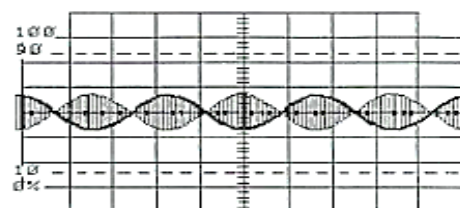

Figure 4-7.
2. Connect the oscilloscope channel 1 probe to the message signal input (M). While observing the signal on channel 1, adjust the signal generator for a $300\text{ mV}_{\text{pk-pk}}$, 3 kHz sine wave (message signal) at M.
3. Connect the oscilloscope channel 2 probe to the carrier signal input (C). While observing the signal on channel 2, adjust the amplitude knob on VCO-LO for a $100\text{ mV}_{\text{pk-pk}}$ carrier signal at C.
7. Slowly turn the MODULATOR'S potentiometer knob clockwise (CW) until the AM signal (channel 2) is less than (<) 100% modulated. Continue to turn the knob slowly CW until the AM signal is greater than (>) 100% modulated.
8. Continue to turn the knob slowly CW until the amplitude modulated signal appears, as shown in Figure 4-7. What type of amplitude modulated signal appears on channel 2?